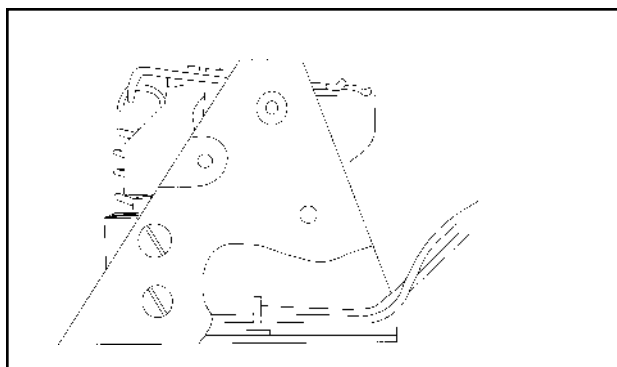

Figure 4.
- 8.) Route all wires between the wire shield and mid barrier, make sure to route the wires toward the bottom of the trough, so that the wires fit into the mid barrier trough (See Figure 4)